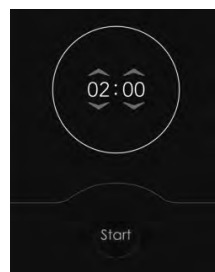

Fig. 11
-  • Press "▲" or "▼" to set the Timer from 00:00 to 09:00 in 30-minute intervals. Press "Start" to begin. (Fig. 11)